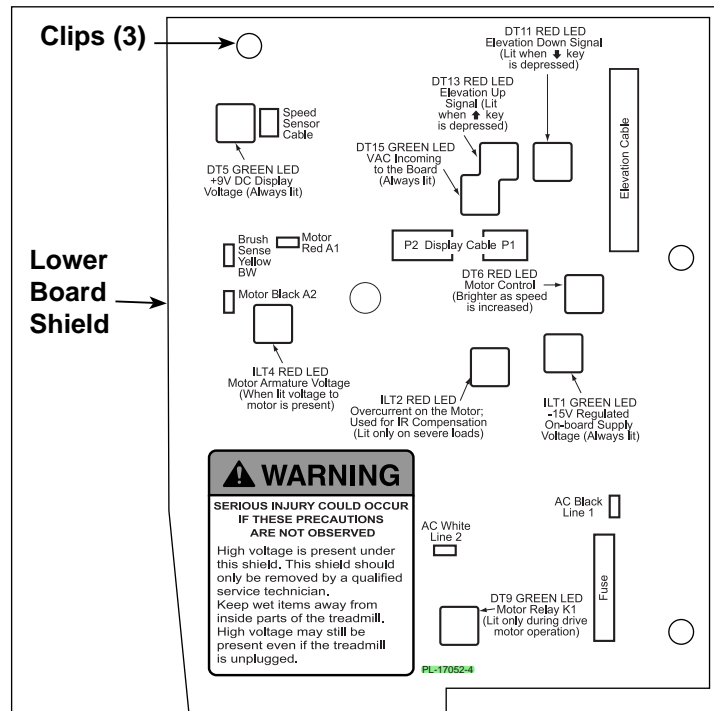

Figure 18
- D. Refer to the lower board shield to confirm the locations for the connectors and check to see that all of the cables are connected firmly. See Figure 18.
- E. Place the lower board shield in position and push the clips down. **NOTE:** The clips will snap in. See Figure 18.